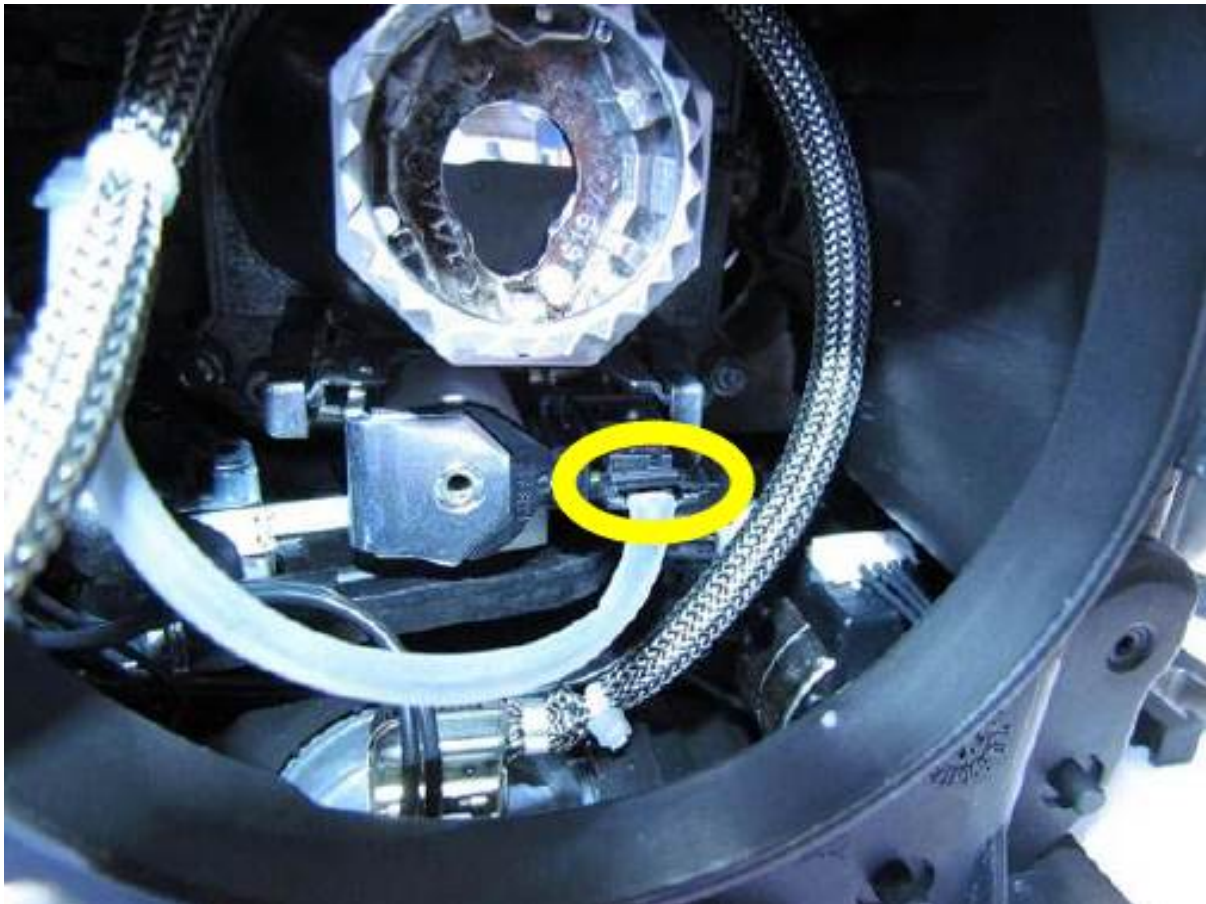

Figure 2. Check this connector on vehicles with PR code 8Q3 or 8Q5.
- If the vehicle is equipped with one of the following PR codes, check the connector shown below (Figure 2):